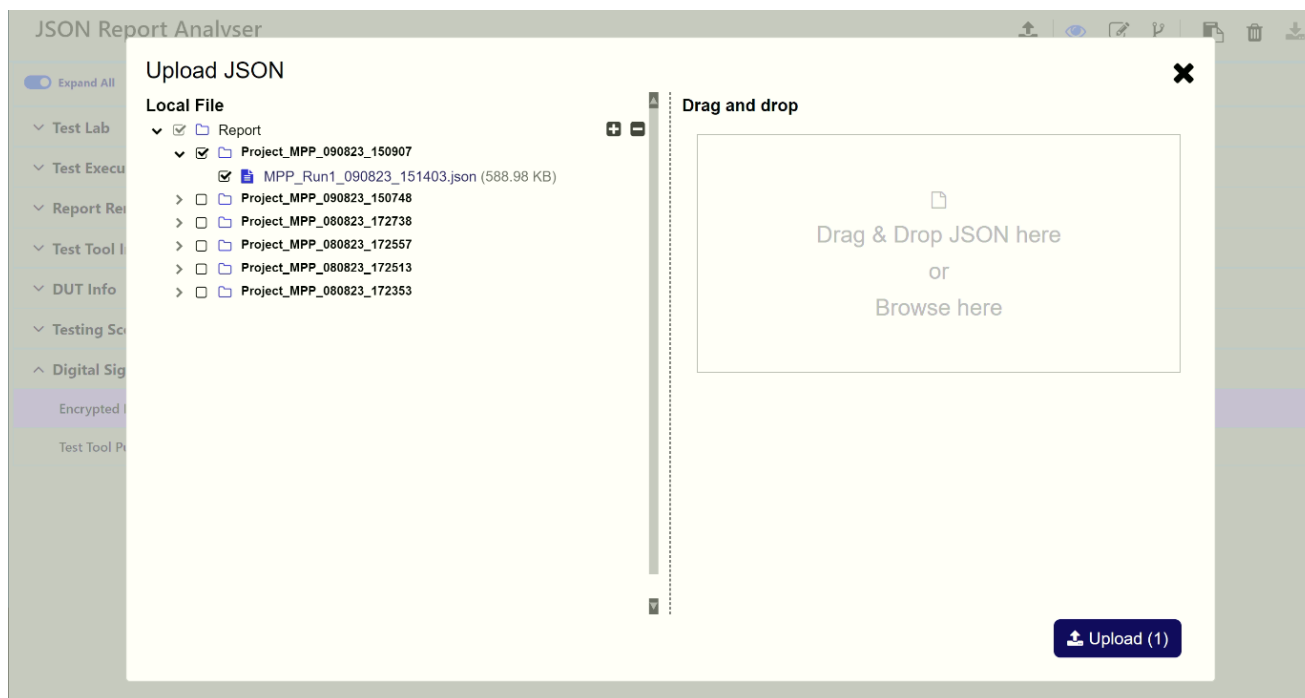

FIGURE 8.112: SELECT JSON FILES TO UPLOAD
2. The following pop-up window will appear as shown in Figure 8.112. The “Local File” panel on the left will show the list of all JSON report files that have been generated from previous test runs and stored in the default file location. The user can select one or more of these files and click on the **Upload** button on the bottom right of the window.